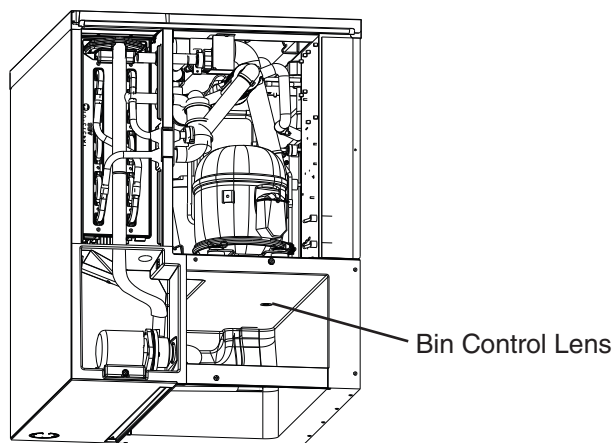

Fig. 3
- 4) As water begins to fill the water tank (1-min. fill), place an object 5" to 7" (127 to 178 mm) away from the bin control lens. See Fig. 3. 15 sec. later, the icemaker shuts down. Remove the object from the bin control lens. 30 sec. later, the icemaker restarts.